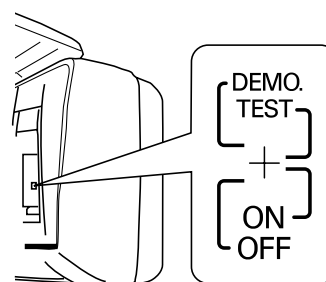

Fig. 37
- (1) Turn the indoor unit selector switch to the "ON" position. (Fig. 37)
- (2) With the remote controller, start heating or cooling operation.
- (3) Turn the selector switch to "TEST RUN." (The indicator lamp blinks during test run operation.)
- (4) After the test run is completed, turn the selector switch to "ON." Operation stops, and remote controller control becomes possible.